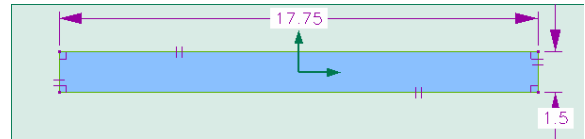

Figure 8. Dimensions for Front Dovetail Piece.
18. Draw a valid profile according to the dimensions given on page 2 and figure 8.